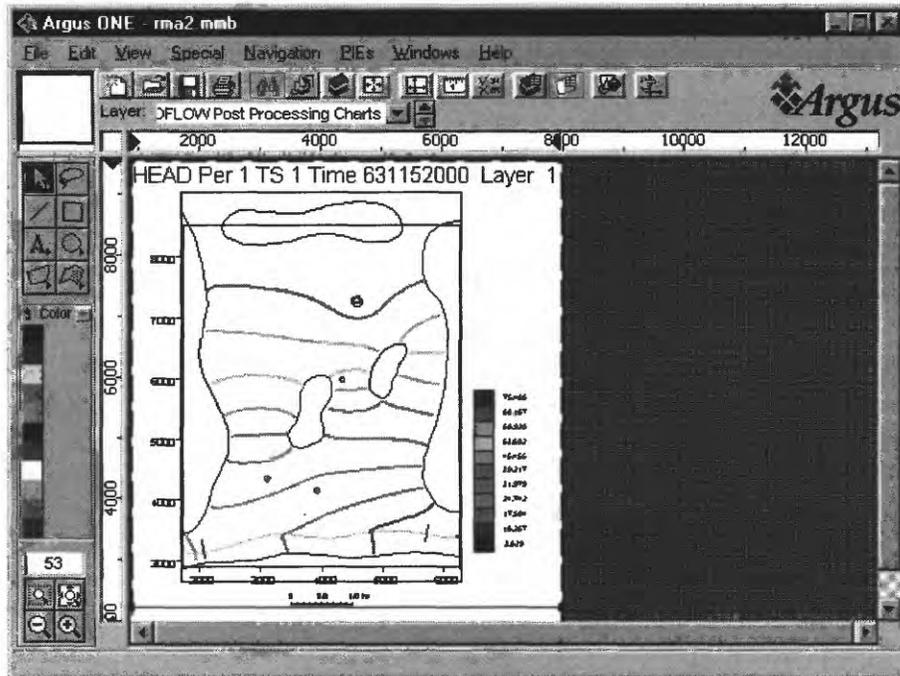

Figure 27. Heads Generated by MODFLOW Simulation.
19. To plot the results of the model, select **PIEs|MODFLOW/MOC3D Post Processing**. Click the **Select Data Set** button and select the file **rma2.fhd**. Click the **Open** button and then the **OK** button to make a contour plot the head in layer 1 (figure 27).